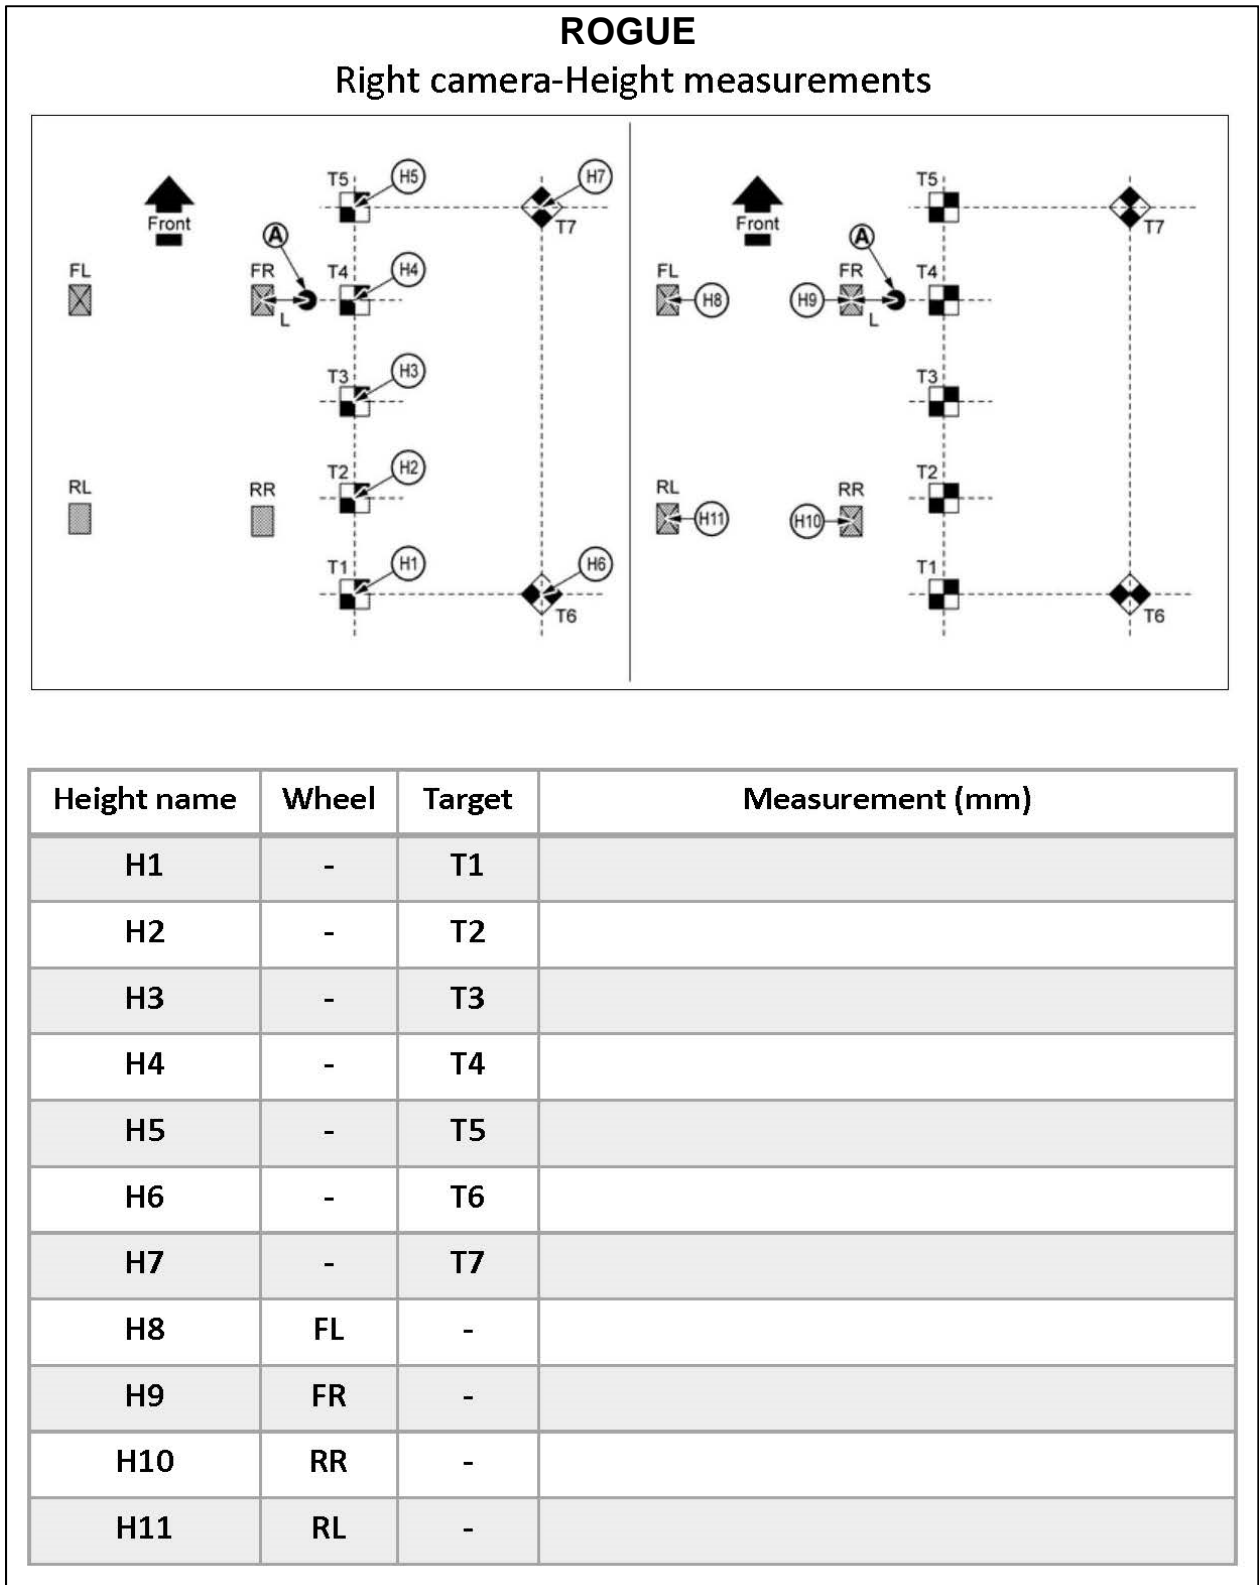

Figure 57
40. Refer to steps 36 - 38 on page 27 to set up the laser level to measure the height of the passenger (RH) side camera, and then document the measurements in Figure 57.
**IMPORTANT:** All measurements must be in millimeters (mm). Refer to the illustrations in Figure 57 to ensure the correct measurement is documented in the correct order and for each calibration target.